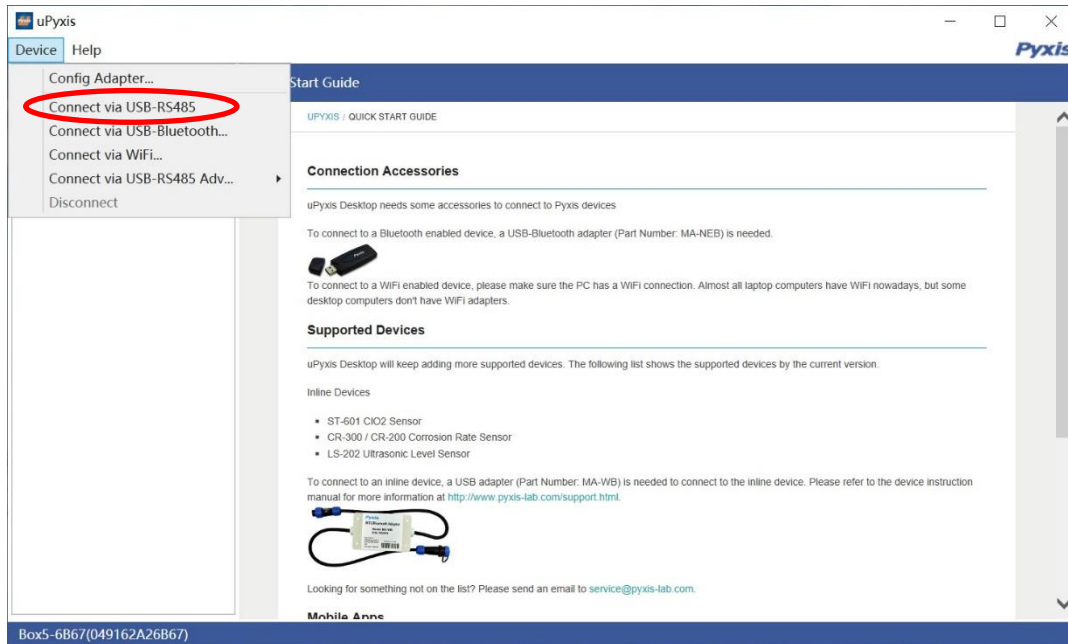

Figure 16 - Connection Options
- 6) Select Connect via USB-RS485 (*Figure 16*).